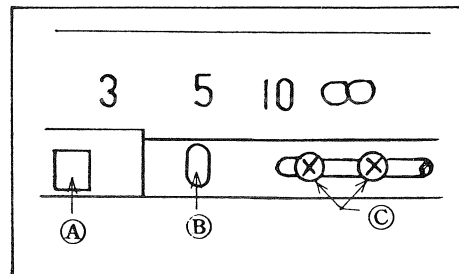

Fig. 3
2. Turn the manual ring so (A) and (B) in figure 3 are aligned and install a home-made pin to hold them in position for the adjustment.
6. Adjust VR7 so the waveform is like figure 3 (C).